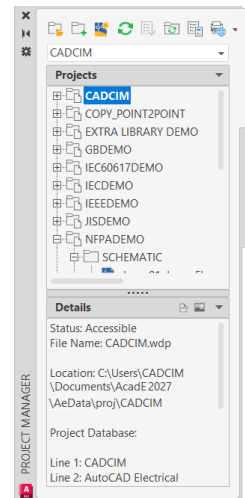

Figure 2-63 The **PROJECT MANAGER** displaying the **CAD/CIM** project and its description
11. Choose the **OK** button from the **Create New Project** dialog box. You will notice that the **CADCIM** project appears in bold text at the top of the project list displayed in the **PROJECT MANAGER**, refer to Figure 2-63.
13. Choose the **Details** button from the **Details/Preview** rollout. You will notice that the project description/information entered in the first nine lines of the **Project Description** dialog box is displayed in the **Details/Preview** area, as shown in Figure 2-63.